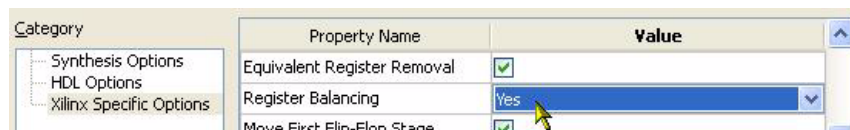

Figure 8-2: Select Register Balancing
- Open the XST Synthesis properties, set the **Register Balancing** option to **Yes** (see Figure 8-2), and then re-run XST.